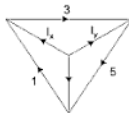

Fig. A2-2
2. In Fig. A2-2, currents in some branches are given. The value of I_x and I_y respectively are: